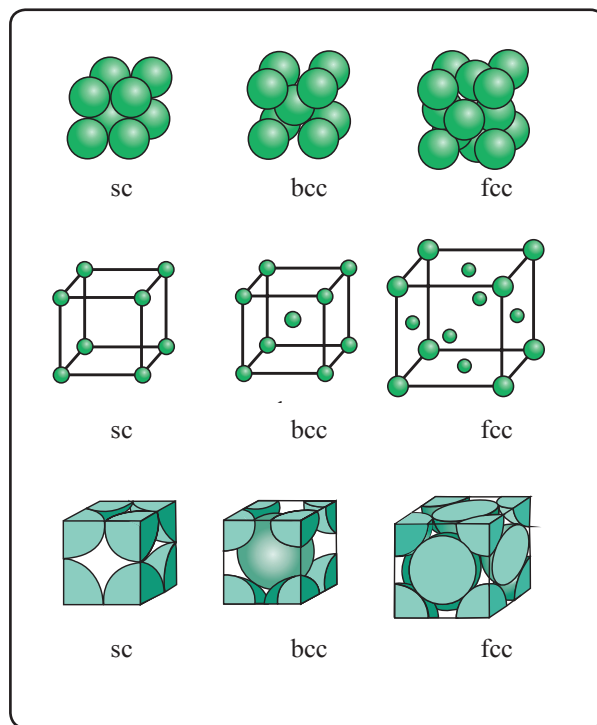

Fig. 1.2 : Cubic unit cell
1.5 Cubic system : There are three kinds of unit cells in cubic system : primitive or simple cubic (sc), body-centred cubic (bcc) and face-centred cubic (fcc) (Fig. 1.2).